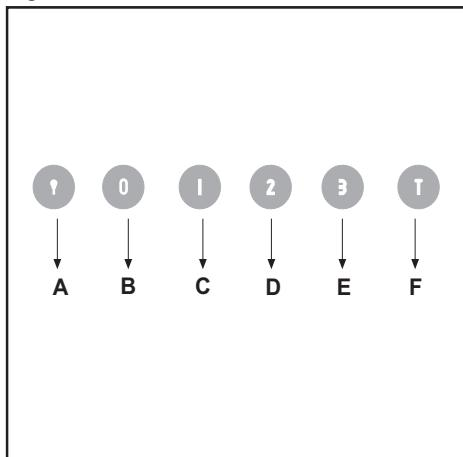

Fig.5
- COMMANDS:** (Fig.5) LUMINOUS the key symbols are explained below: